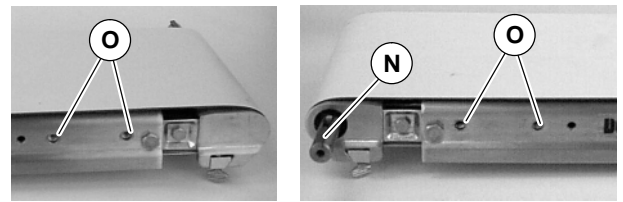

Figure 3
2. Remove screws (O of Figure 3) from both sides of conveyor.
3. Install square key (N of Figure 3) into conveyor drive shaft.